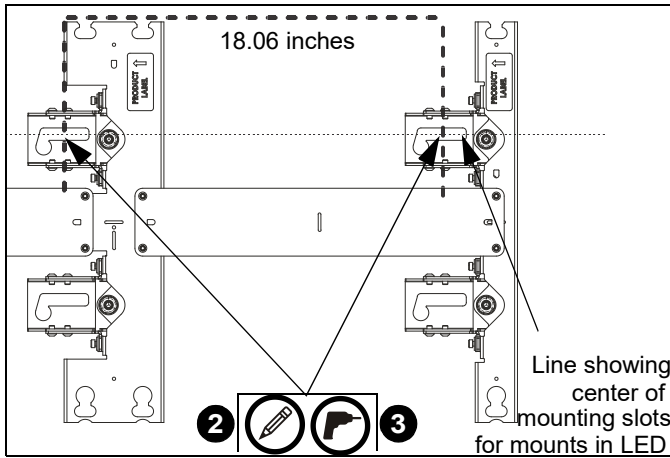

Figure 16
3. Mark mounting hole in top mounting slot along the horizontal line marked in Step 3 of **Installing First Mount** Section. (See Figure 16)
NOTE: The mounting holes are 18.06" apart on-center for center (M) and center (M) or center (M) and right (N) uprights. (See Figure 16)
NOTE: Drill two pilot holes (see Table 1 for size) at each location marked in Step 3 (See Figure 16) and follow fastener information (appropriate for wall type) located in Table 1.